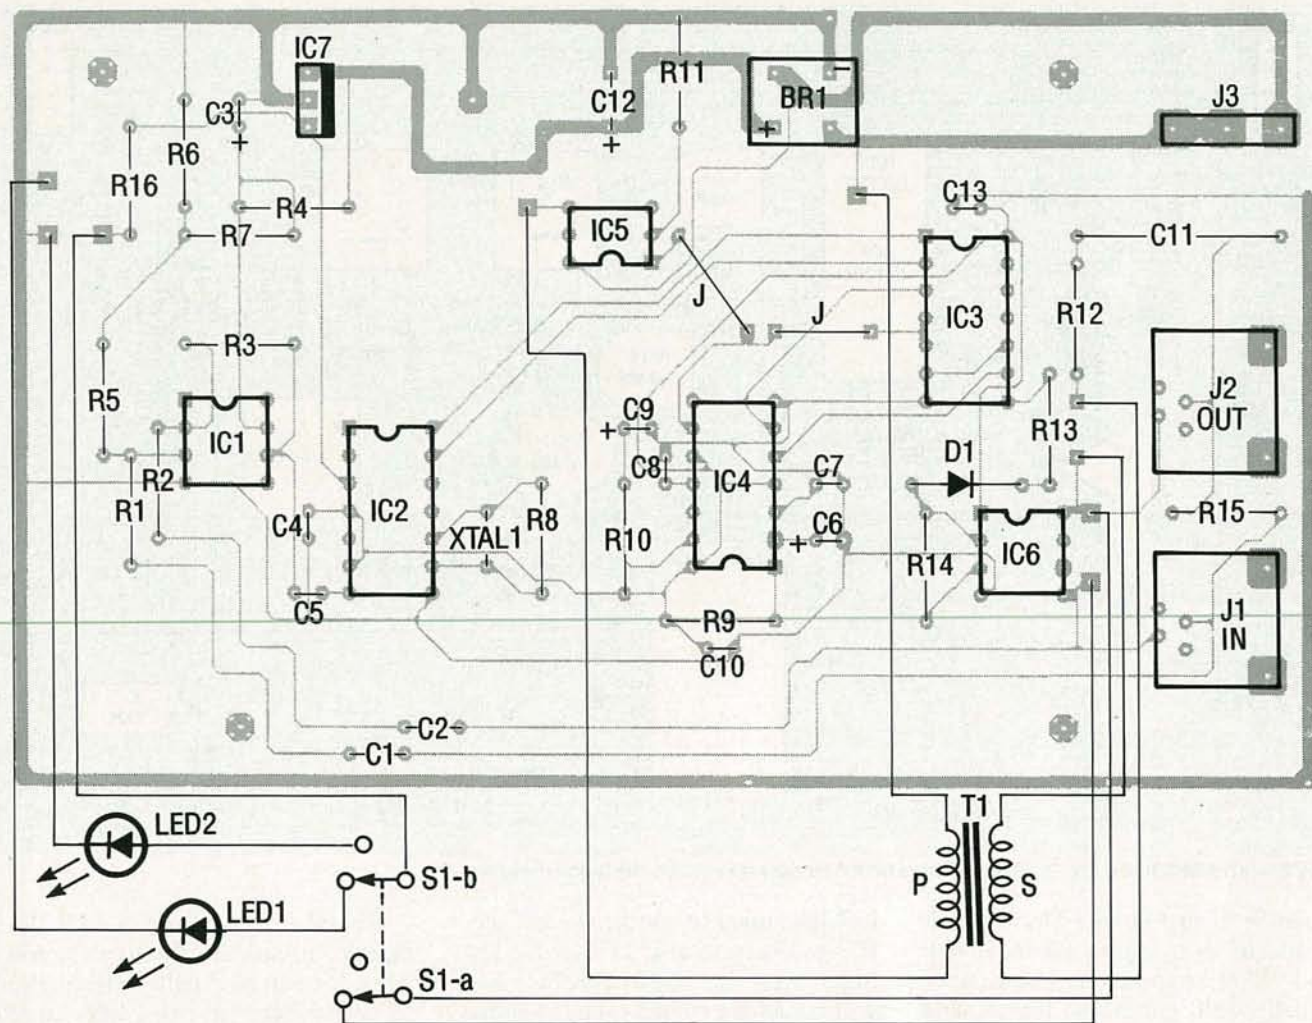

FIG. 3—PARTS-PLACEMENT DIAGRAM. A similar layout can be used if you choose to use perfboard instead of a PC board.
A Parts-Placement diagram is shown in Fig. 3. Some builders prefer to use sockets for the IC's, but they are not necessary for this project. The PC board is laid out for a closed-circuit jack for J3; the third pin is not used, but it adds mechanical strength to the power jack mounted on the PC board, and it costs just a few cents more. The modular jacks, J1 and J2, have protrusions that fit through holes in the circuit board; the protrusions can then be flattened out with a hot soldering iron to secure the jacks in place. (Be sure to clean and re-tin the iron's tip after melting the plastic.)
- Figure 3 shows a setup that allows you to watch unscrambled cable channels (or a tape playback) on the second TV that's cable-ready, while viewing scrambled cable or a VCR tape on the main TV set. If a family member decides to play a tape or record a program, you can retreat to the second TV and watch something else.